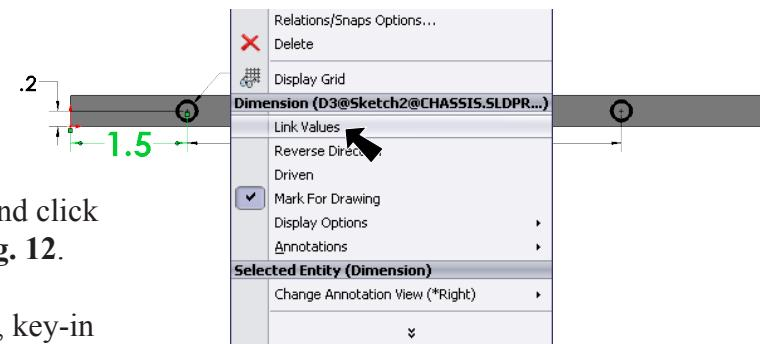

Fig. 12
Step 11. Right click the 1.5 dimension and click Link Values from the menu, Fig. 12.